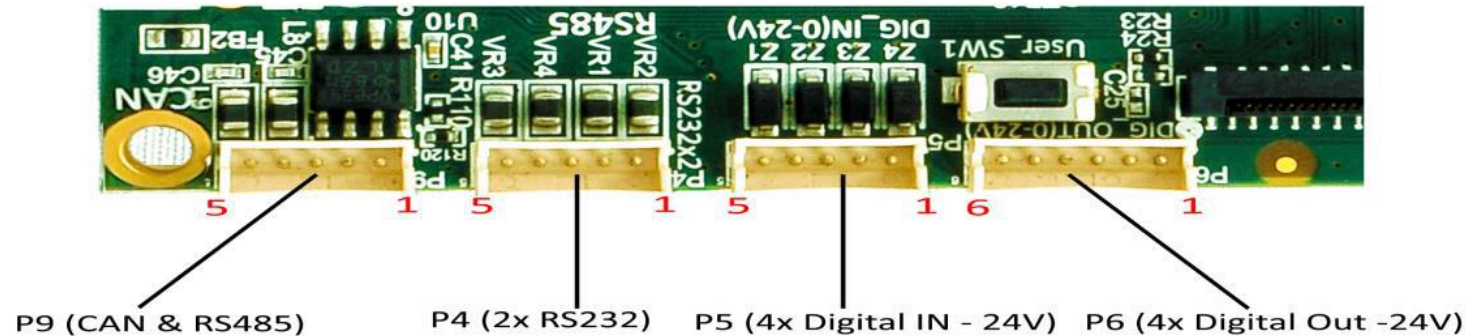

Fig 8 : Field Interfaces
- **User LED (GPIO) :** The RuggedBoard populated with three user controllable LEDs.Fig. 8 shows the location of the LEDs. Their functions are listed in Table given below.